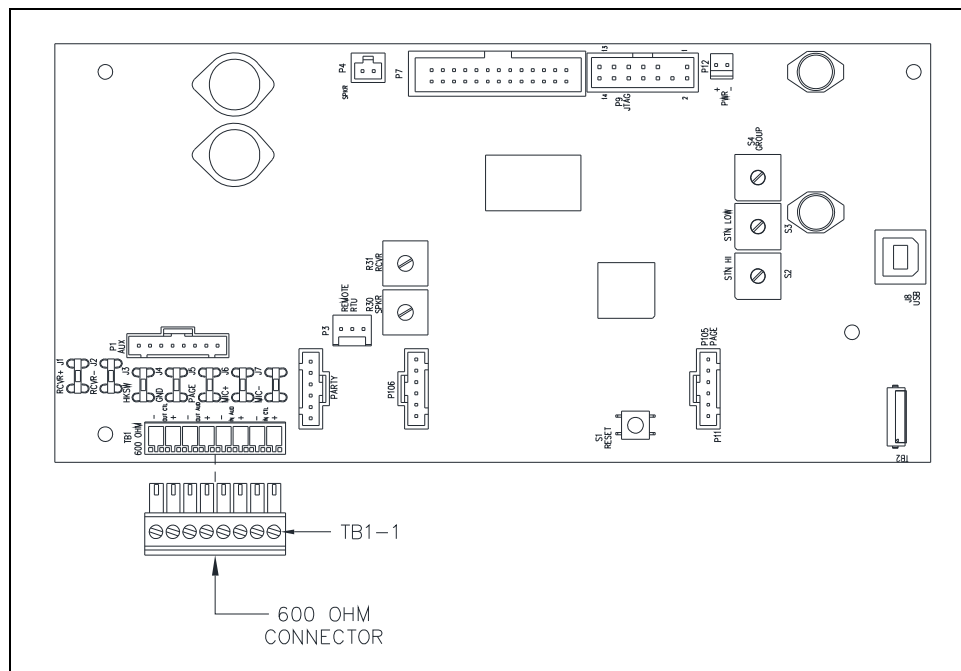

Figure 9. SP2 Main PCBA (Fiber)
3. Connect the 600-ohm audio wires to the pluggable terminal block for the 600-ohm audio I/O connection (see Table 8 and Figure 9).